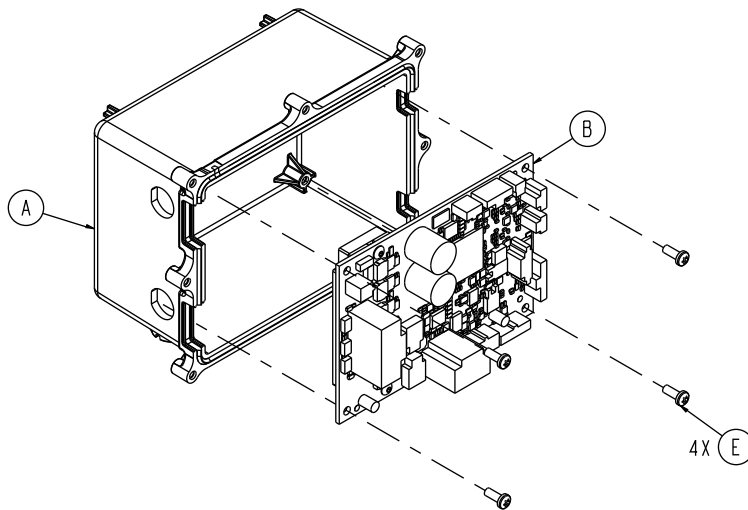

Figure 55 – Remove the HBC board screws
12. Using a T20 Torx driver, remove the four pan head tapping screws (E) that secure the HBC board (B) to the HBC board enclosure assembly (A) (Figure 55). Discard the HBC board.